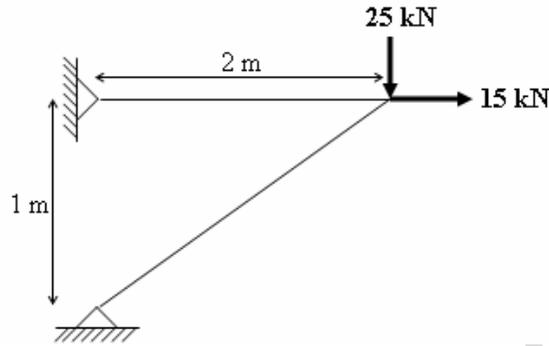

Fig.5
6. Analyze the plane truss shown in Fig.5 using stiffness method. Assume the axial rigidity is constant. [16]